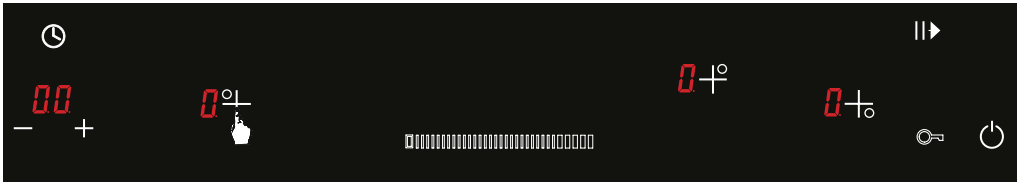

Figure 14
1. Select the relevant hob to be set while the stove is on. (See Fig. 14)